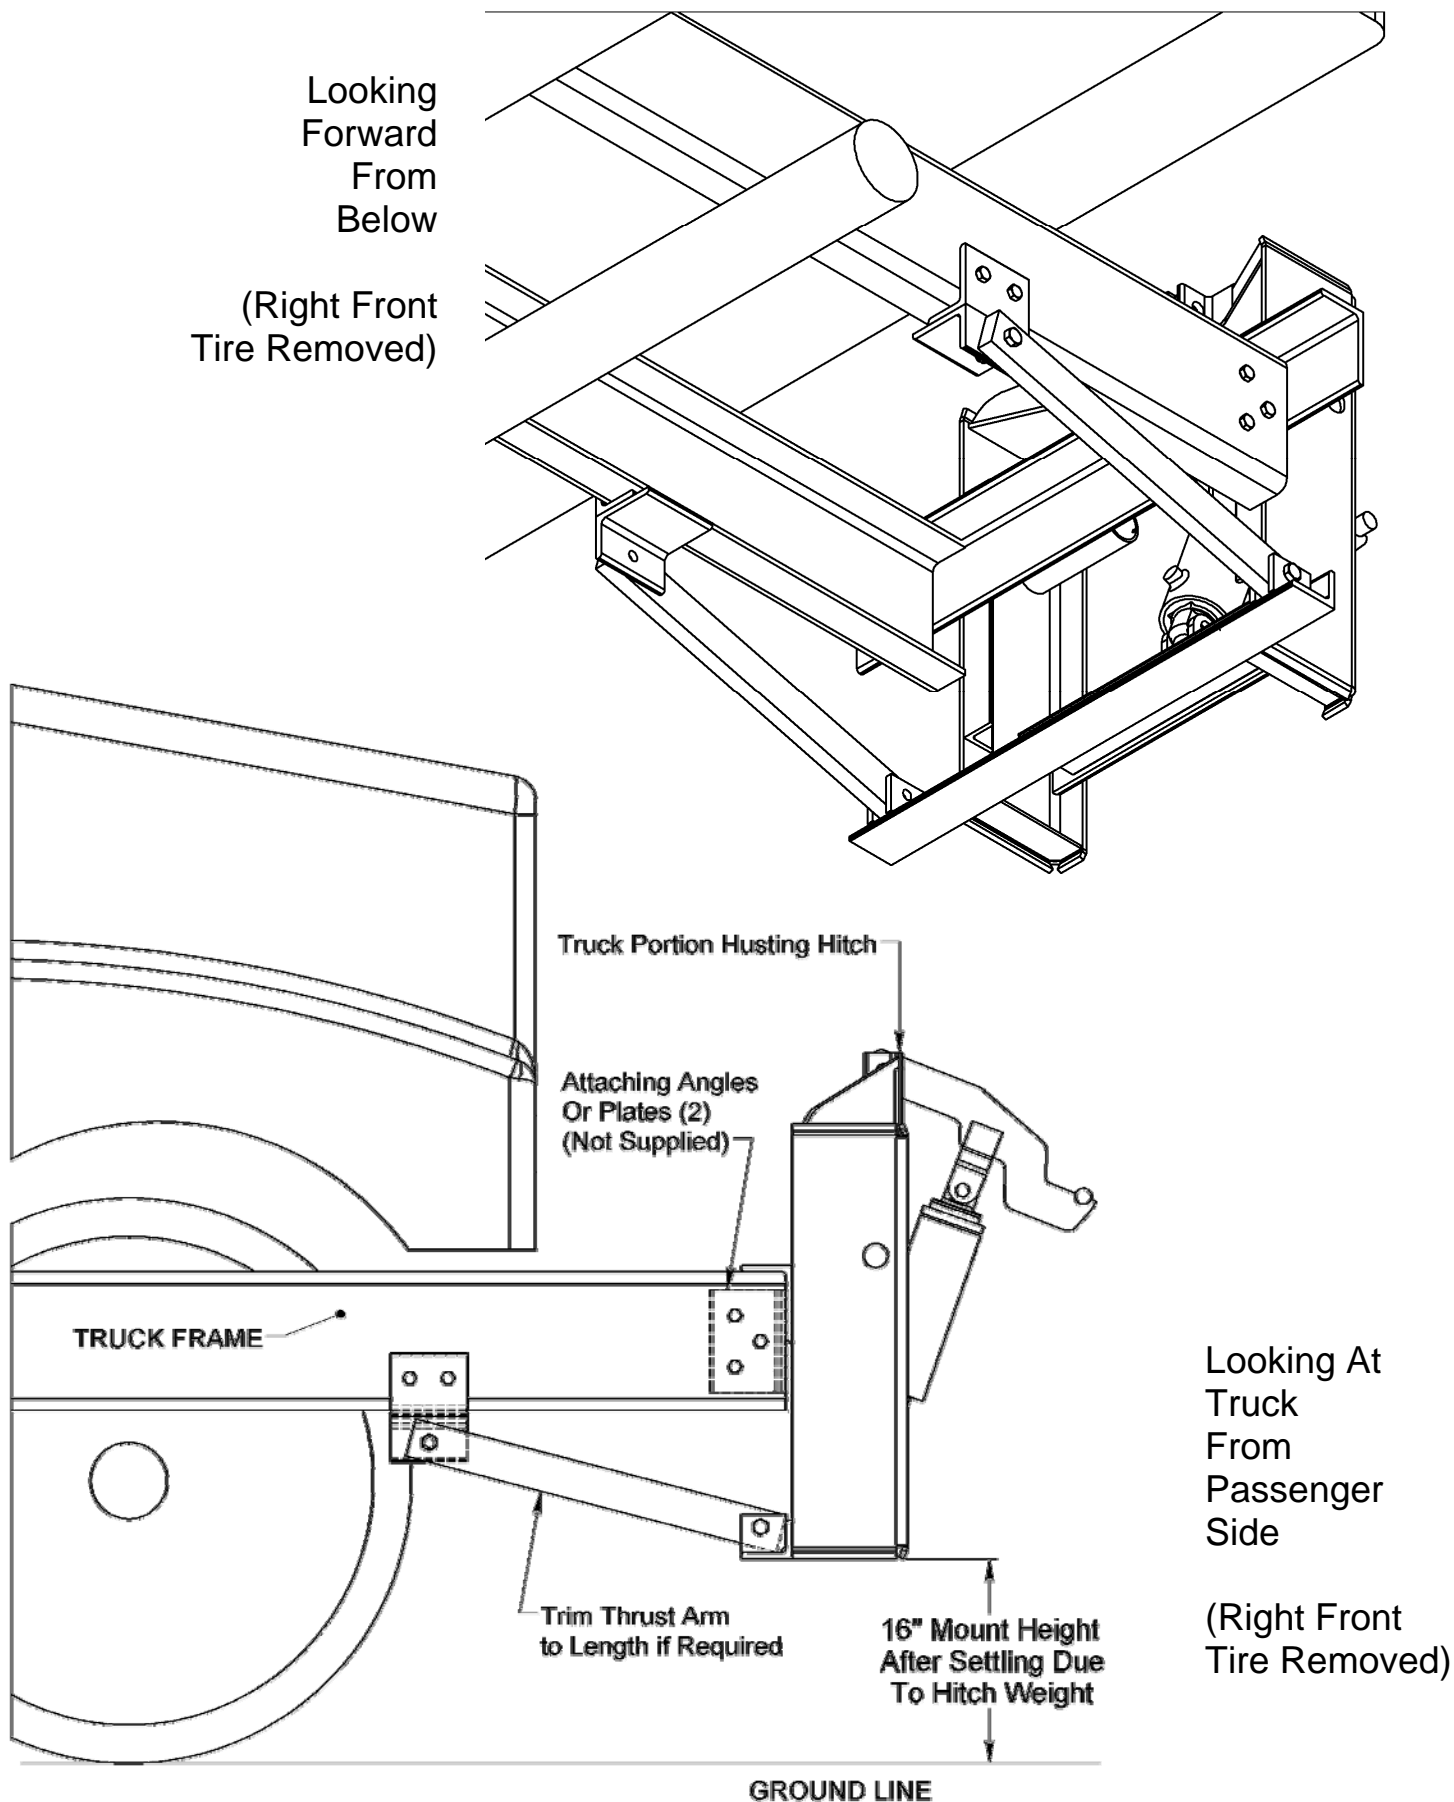

FIGURE 3-2 – Typical Thrust Arm Mounting of Husting Hitch
2. Determine what initial mounting height must be used to obtain the final hitch operating height shown in Figure 3-2. It is necessary to account for height changes which may occur due to the weight of the hitch (approx. 500 to 600 lbs.), the weight of the load in the bed, etc. The installer should attempt to determine the typical loading, and resulting frame height, of the truck as it will be used in snowplowing operations.